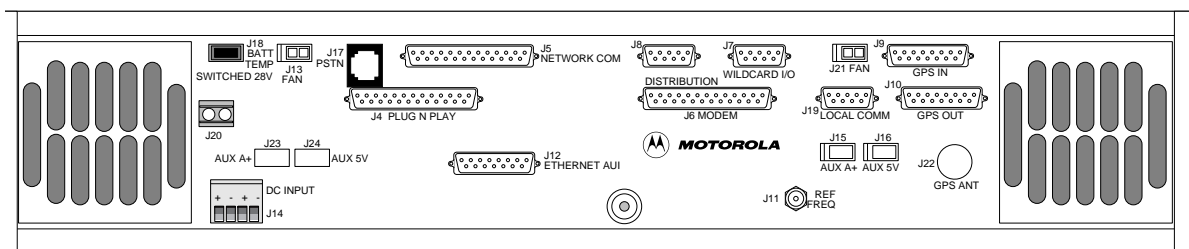

Figure 5-4: RF-B! Transmitter Controller Backplane
2. Disable all network traffic so that the message operation does not interfere with the checkout procedure. For example, network traffic on the RF-B! transmitter controller can be disabled by disconnecting the Ethernet AUI cable from the J12 connection on the back of the RF-B! transmitter controller (See Figure 5-4).